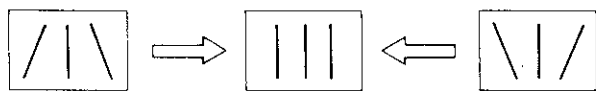

Fig. 28-5
5. Minimize the side pincushion tilt distortion with S.P.T (RV7) on the DA board as shown in Fig. 28-5.